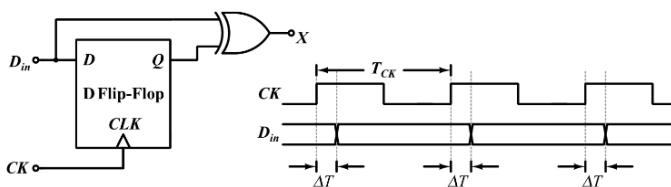

Fig. 5.30
31. In the circuit shown below in Fig. 5.30 a positive edge-triggered D flip-flop is used for sampling input data using clock CK. The XOR gate outputs 3.3 volts for logic HIGH and 0 volts for logic LOW levels. The data bit and clock periods are equal and the value of $\Delta T/T_{ck} = 0.15$, where the parameters ΔT and T_{ck} are shown in the figure. Assume that the Flip and the XOR gate are ideal.